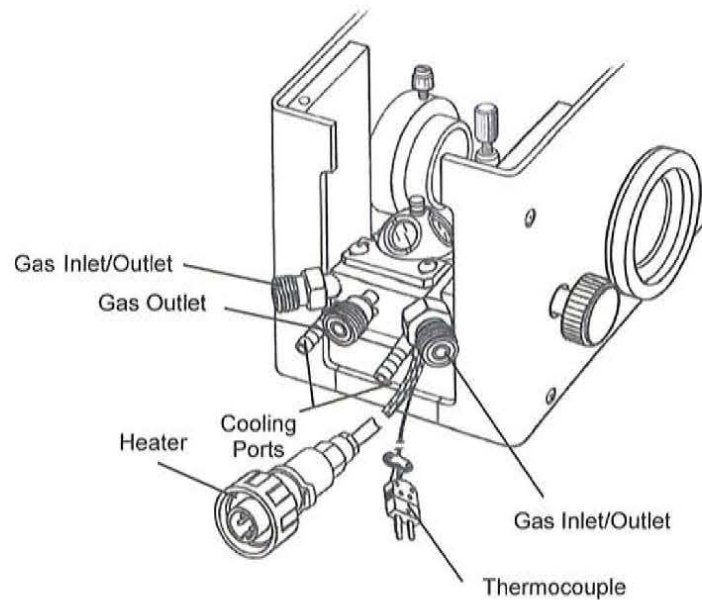

Figure 13 • The HVC Installed
- If temperature control is desired, connect the thermocouple and the heater (Figure 13) to a suitable temperature controller.
- If the HVC is to be operated at temperatures above 100°C, use 1/4" tubing to connect the two cooling ports (see Figure 13) to a water inlet/outlet or a coolant circulator.
- If vacuum is desired, connect the gas outlet (1/4" VCO fitting, see Figure 13) to a vacuum pump or other source of vacuum using 3/8" I.D. vacuum tubing. Seal off the two gas inlet/outlet ports.
- If reaction or process gas/es are to be passed through the sample, connect the gas inlet/out ports (1/4" VCO fitting, see Figure 13) as needed to the gas source/s. Connect the gas outlet and seal off any unused gas ports.